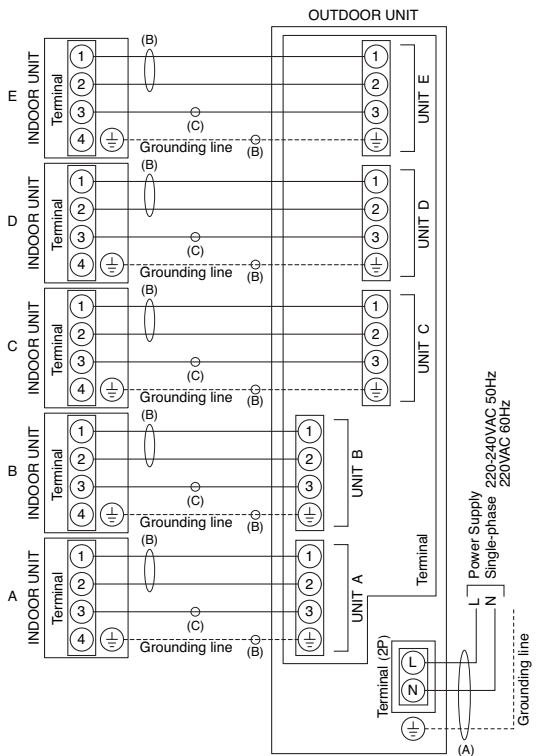

Fig. 25
Refer to the wiring system diagram (Fig. 25) for the meaning of (A), (B) and (C) in Table 6.
5-3. Wiring System Diagram (Fig. 25)